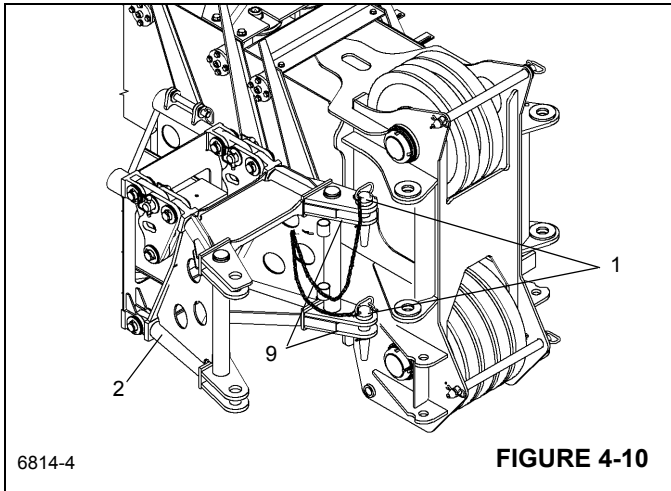

FIGURE 4-10
5. Remove the retaining pin from the hitch pin (3) that secures the boom extension to the rear storage bracket. Remove the hitch pin, unlocking the boom extension from the boom. (Figure 4-10)
7. Raise the boom to horizontal and extend the boom approximately 51 to 64 cm (20 to 25"). Make certain that the boom extension storage lugs clear the guide pins (Figure 4-12) (3) and ramp (Figure 4-10) (4) on the front and rear storage brackets.
8. Extend the boom approximately 51 to 64 cm (20 to 25"). Make certain that the boom extension stowage lugs will line up in front of the guide pins (3) (Figure 4-12) and ramp (4) (Figure 4-10) on the stowage brackets when the boom extension is positioned to the side of the boom.
9. Ensure the hitch pin (3) (Figure 4-10) and clip pin are removed from the rear stowage bracket.
14. Align the stowage lugs on the boom extension with the guide pins and ramp on the stowage brackets (Figure 4-10) and (Figure 4-12) and fully retract the boom.
15. Install the hitch pin (2) Figure 4-10 and clip pin securing the boom extension to the rear stowage bracket.